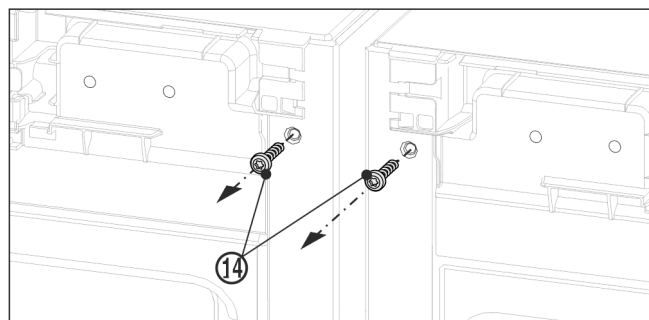

Fig. 10
- Before fitting the top bracket, unscrew both grounding screws Fig. 10 (14).